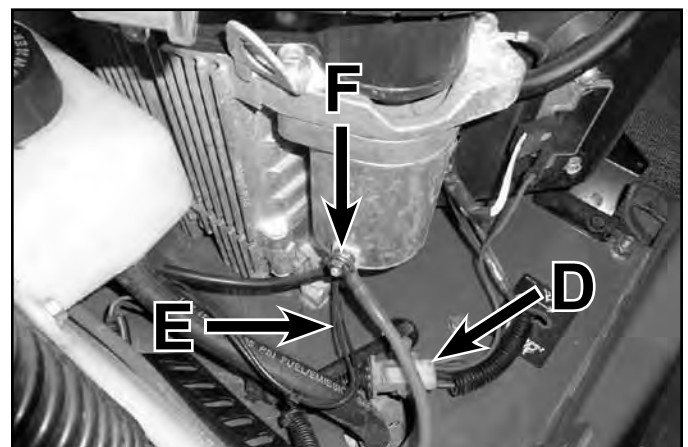

Fig. 054
14. Disconnect the chassis-to-engine electrical connection (D).
15. Disconnect the ground wires from the engine block (E).
16. Disconnect the positive battery cable (F) from the starter motor (Fig. 054).